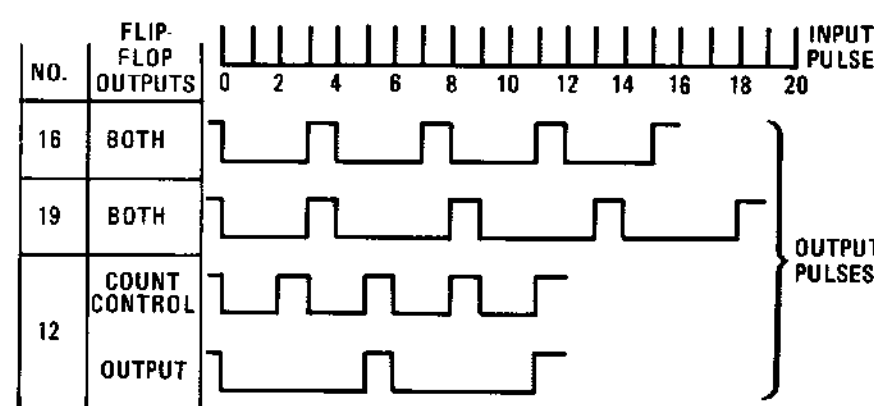

Figure 8-61. Divider Operation Timing Diagram
a. **Counting Operation and Control.** Refer to the schematic diagram and Figure 8-61, and to Table 8-38, and consider the example  $N=16$ . At the beginning of a divide sequence (clock 1) the 4 most significant bits (MSB) of the N number (0100) are loaded into the programmable counter. Clock 2 subtracts 4 (0001) from the previous total leaving (0011). Clock 3 subtracts 4 more and the 0010 output enables the End of Count Decoder. At Clock 4, Count Control U2B
b. **Increment Decoder Operation.** The Increment Decoder and Divider (divide by four) circuits come into play if the N number cannot be divided by four evenly. The 2 least significant bits (LSB) of the N number ( $N_2$  and  $N_1$ ) control the output of the Increment Decoder. The divide-by-four circuit provides a sequence of four sequential states, that are the input to the Increment Decoder. Each state coincides with one of the four count down sequences whose length is characterized by  $N/4$  or  $N/4+1$ . Refer to Table 8-39. Note that for the  $N=16$  sequence ( $N_2=N_1=0$ ), the Increment Decoder Output Sequence (TP6) never leaves the low state and the count down sequences are  $N/4$ . For  $N=19$  ( $N_2=N_1=1$ ) the first output is low with the remaining three high. This means that the first pulse occurs after  $N/4$  clock pulses and the other three occur after  $N/4+1$  pulses. During the final count down sequences, the high at the Increment Decoder Output inhibits U11B allowing the counter to count down to 0001 (rather than 0010) before the End of Count Decoder is enabled through U11A. This allows the extra count to occur. The rest of the sequence occurs as described in the previous section. See also Table 8-38 and Figure 8-61.